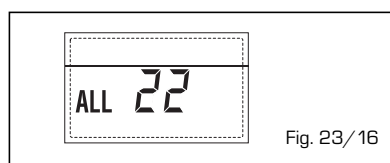

Fig. 23/16
**- ANOMALIA GUASTO SONDA MANDATA SECONDA ZONA MISCELATA "ALL 23" (fig. 23/17)**